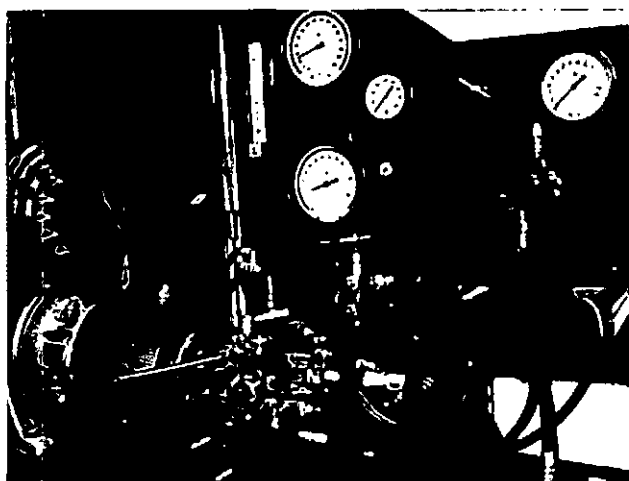

Fig. 16-6, (F5288). Check the starting check valve.
7. Check the rail pressure gauge and fuel drain from the aneroid line. When the starting check valve opens, a large flow increase will occur, Fig. 16-6.